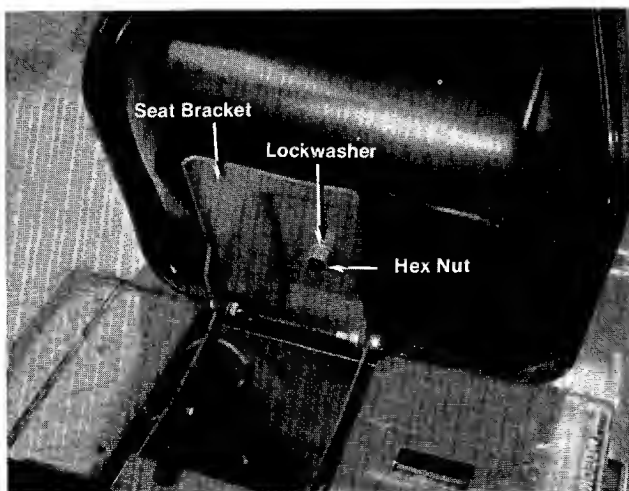

FIGURE 2. SEAT ASSEMBLY
Step 6. Place the seat in desired hole on seat bracket. Secure with hex nut and lockwasher. See figure 2.